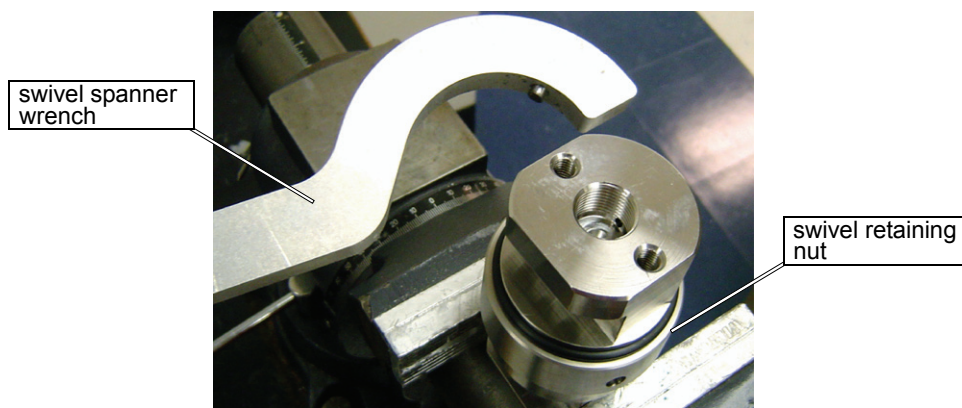

Figure C-5: Use the Swivel Spanner Wrench to Unscrew the Swivel Retaining Nut
3. Unscrew the **swivel retaining nut** using the swivel spanner wrench (Figure C-5) by rotating it counterclockwise: